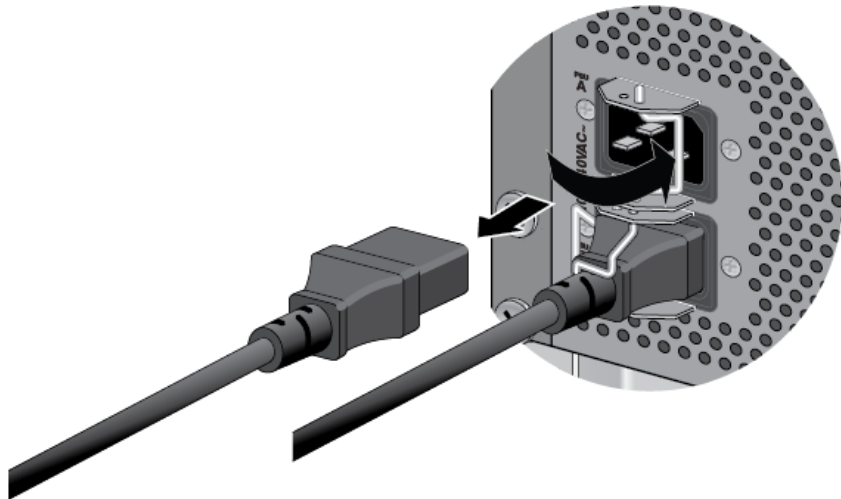

Figure 93. Disconnecting the AC Power Cord from the Chassis
2. Move the retaining clip from the power cord on the rear panel of the chassis, and disconnect the cord. Refer to Figure 93.